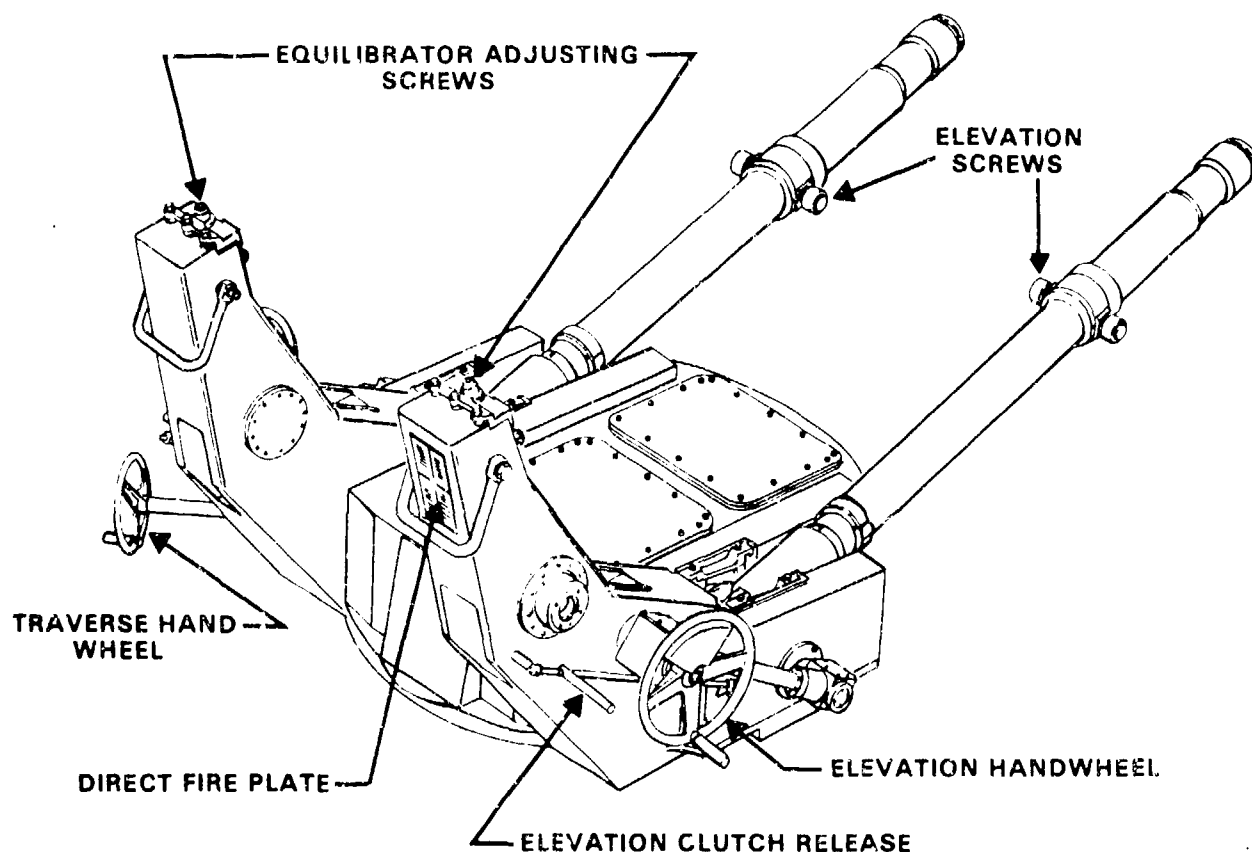

Figure 6-6. Top carriage assembly.
*a. Definition.* The top carriage (fig 6-6) contains the elevating brackets and traversing mechanism and forms the connection with cradle trunnion attachment, the upper end of the equilibrators, and the bottom carriage.